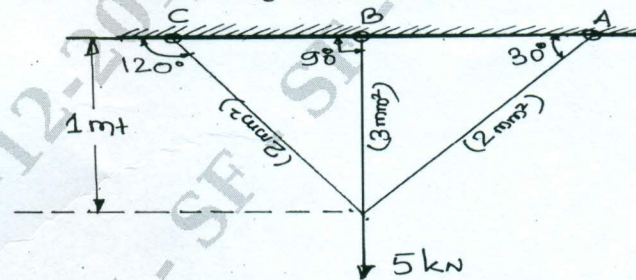

Fig.Q7
- 7 Analyse the three wire system shown in Fig.Q7, the number in parenthesis are the c/s area of the wire in mm^2 . Take $E = 2000 \text{ kN/mm}^2$, using stiffness method. (20 Marks)